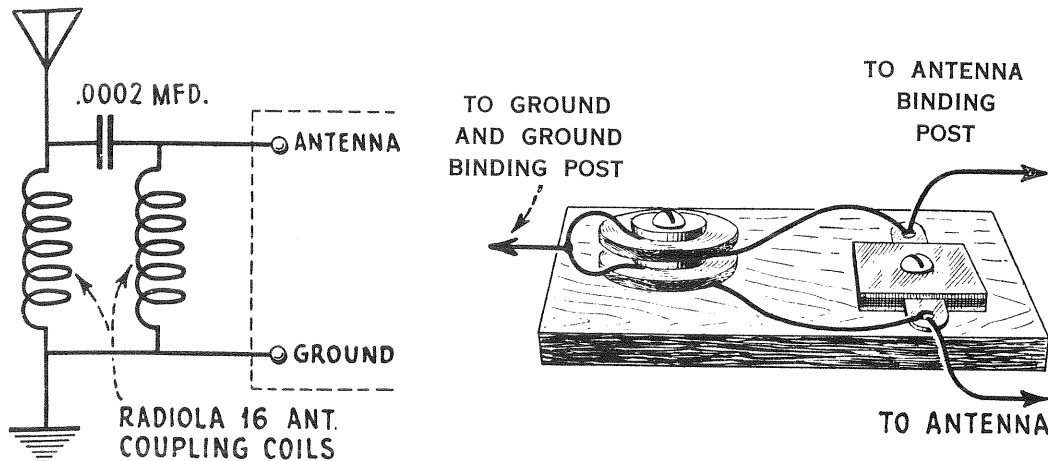

Figure 6—Long wave interference filter
- (b) Connect as shown in Figure 6.